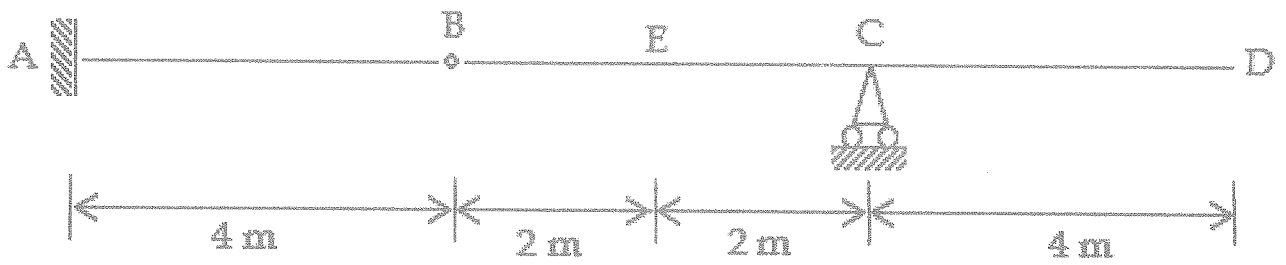

Fig. Q2
- b) A continuous beam shown in Fig. Q2 is subjected to the loading systems shown in part (c) below. Determine the influence lines for;